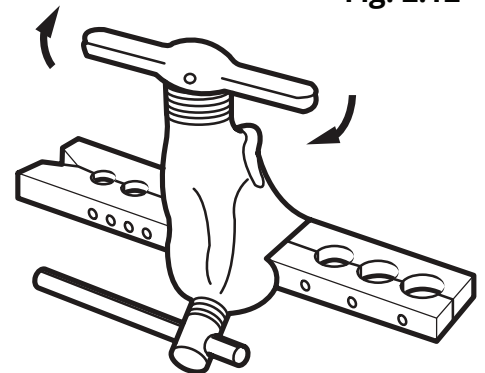

Fig. 2.13
6. Place flaring tool onto the form, as shown in **Fig. 2.13**.
7. Turn the handle of the flaring tool clockwise until the pipe is fully flared, as shown in **Fig. 2.13**.